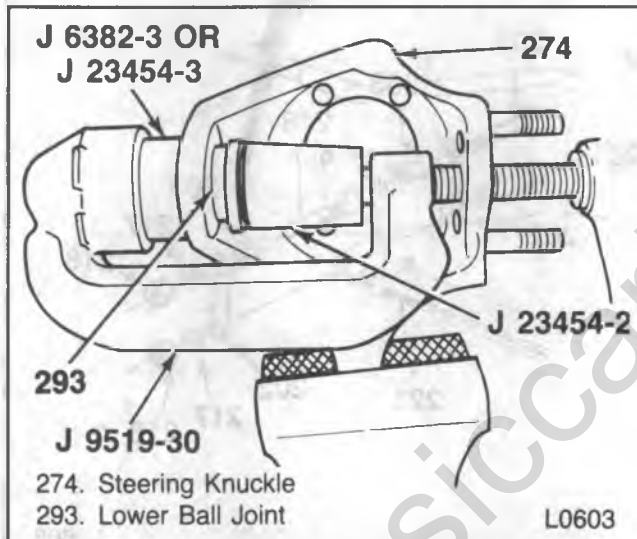
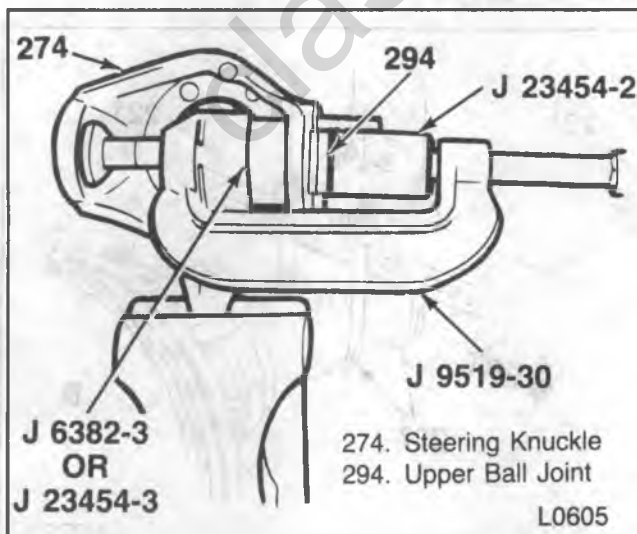

Figure 71 — installing the Lower Ball Joint
Figure 72 — Installing the Upper Ball Joint
1. Lower ball joint (293) into the steering knuckle (274).
- Use J 9519-30, J 23454-2, and J 23454-3 or J 6382-3 (figure 71). Tighten until the ball joint fully seats.
3. Upper ball joint (294) into the steering knuckle (274).
- Use J 9519-30, J 23454-2, and J 23454-3 or J 6382-3 (figure 72). Tighten until the ball joint fully seats.
4. Steering arm (290) (if removed) and steering knuckle (274).
5. Spindle (265).